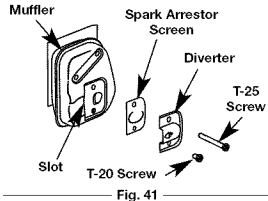

Fig. 41
2. With a flat blade screwdriver or Torx T-20 bit and a T-25 bit, remove the screws attaching the spark arrestor cover to the muffler (Fig. 41).